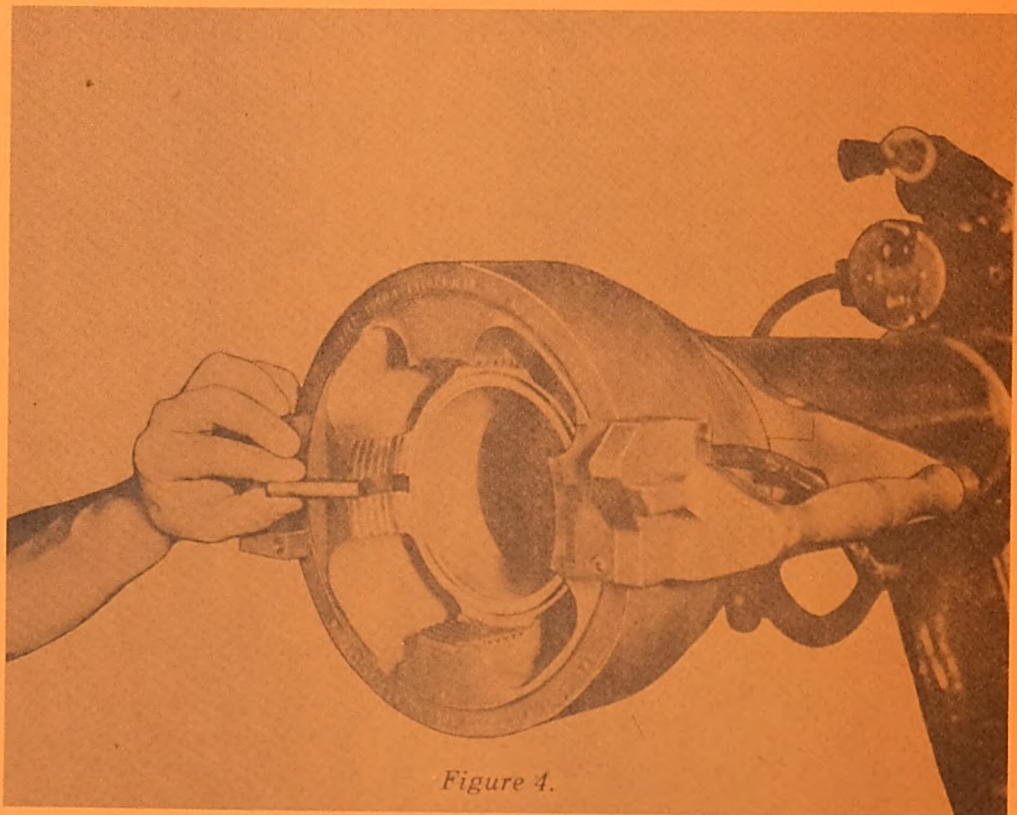
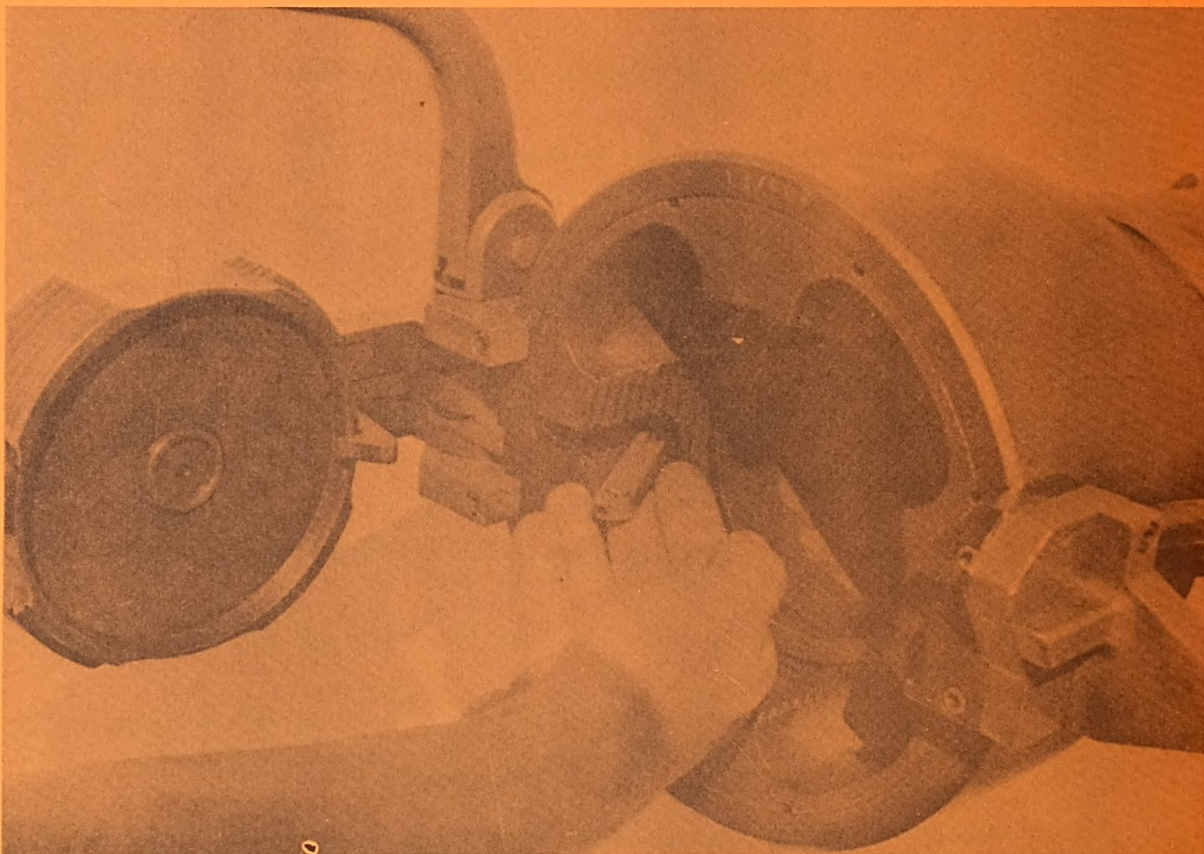

Figure 4.
Figure 5.
(1) Position the detent fulcrum (number up) in the detent recess in the vent bushing so that the tip end of the detent is facing the hingeblock (figure 4). Rotate the detent about 45 degrees to the left until action of the detent spring no longer causes movement of the detent. Take out the detent and put the fulcrum (number down) into the recess so that the tip end of the detent is toward the chamber. Apply pressure on the fulcrum end so that the detent slips into place (figure 5).
(2) Put the coupling ring into the recess of the breechblock.
(3) Aline the coupling ring roller recesses in the coupling ring and breechblock. Replace the coupling ring rollers.
(4) Replace the firing pin housing and place the operating lever dog under it to hold it in place.
(5) Position the breechblock so that the word "HINGE" is over the edge of the surface.
(6) Replace cam plate so that the coupling ring rollers engage in the cam grooves. Insure that the word "HINGE" on the breechblock is visible through the extractor recess in the cam plate.
(7) Position the cocking cam and its projection in the small hole in the cam plate. Make sure the cam has its inclined surface entering the rectangular hole in the firing pin housing.
(8) Insert the sear (firing pin notch leading) about $3\frac{1}{2}$ inches into the hold in the trigger end of the hinge.
(9) Replace the hinge and sear, making sure the firing pin housing protrudes through the hinge and hinge lugs are projecting over the edge of a flat surface.
(10) Hold the hinge $\frac{1}{4}$ inch up from the breechblock and slide the sear into the hole of the firing pin housing.
(11) Insert the firing pin into the firing pin housing with the point leading and the groove on the firing pin parallel with the long end of hinge.